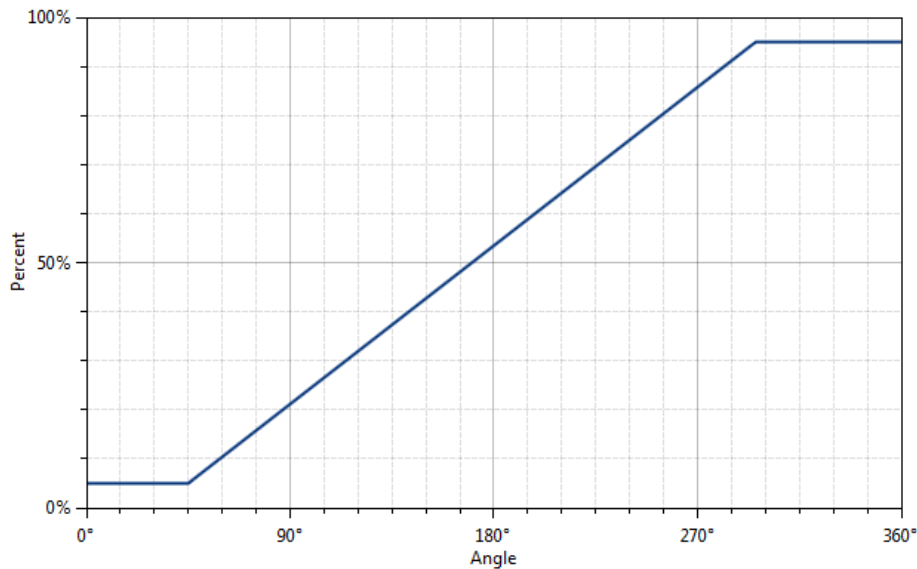
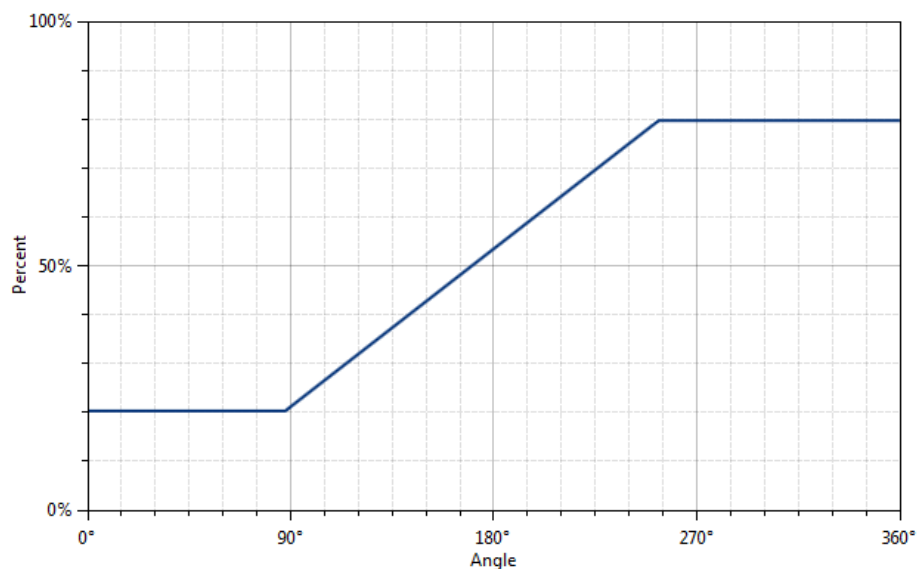

Figure 28. Output without Clamping
Figure 29. Output Clamped from 20% to 80%
- The “Apply Clamps” checkbox is available only for the Analog or PWM interfaces. If activated, the output is clamped between the specified start and end points if the target goes beyond these mechanical positions. Due to the low resolution of the clamps register, the available clamping values might not match the selected output start and end points exactly. See Figure 28 and Figure 29 for examples of the output without clamping and the output with clamping, respectively.